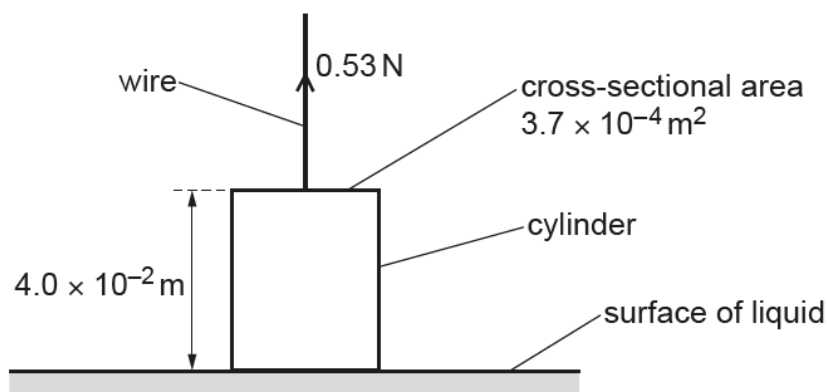

Fig. 4.3 (not to scale)
- (d) A solid cylinder is held stationary by a wire so that the base of the cylinder is level with the surface of the liquid, as shown in Fig. 4.3.